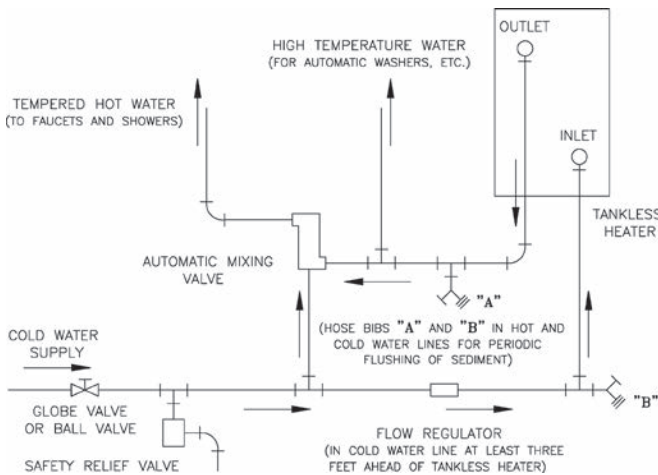

Figure 6: Schematic Tankless Heater Piping
G. CONNECT TANKLESS HEATER PIPING AS SHOWN IN Figure 6. See Table 3 for Tankless Heater Ratings.